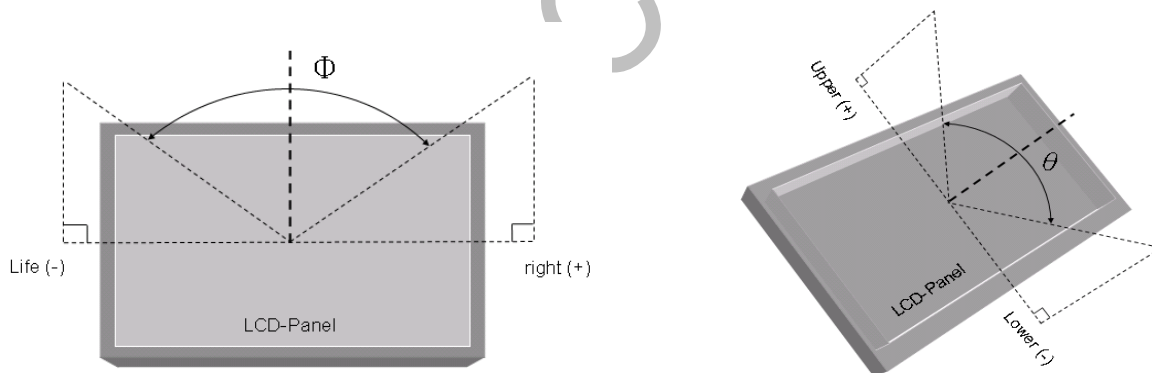

Fig7-2 Definition of Viewing Angle
*4) Definition of Viewing Angle(θ, ψ), refer to Fig7-2 as below : (in the dark room.EZ-CONTRAST (ELDIM))